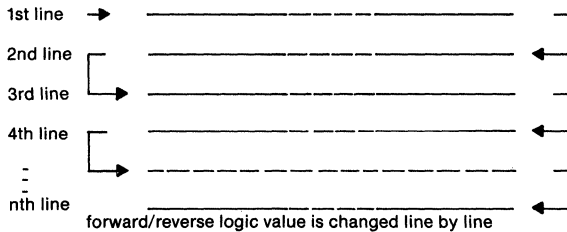

Fig.10 FORWARD/REVERSE PRINTING
to the last (IX) or from the last (IX) to the first (I) column as shown in fig.9. By changing line by line the logic value of Forward/Reverse control printing alternatively left to right or right to left is possible (see fig.10).